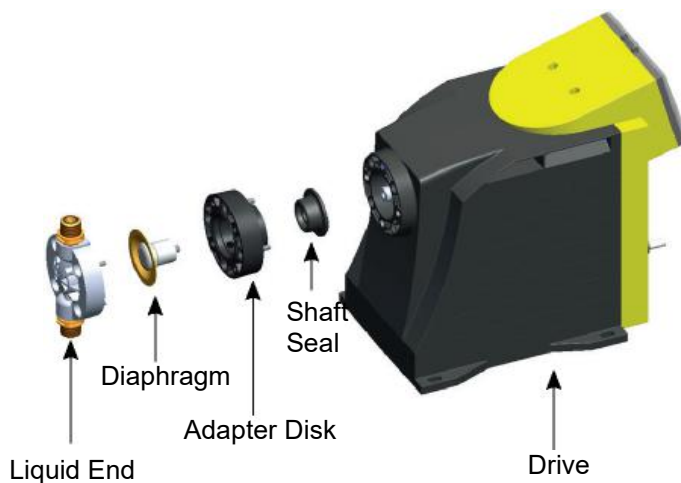

Figure 31: Pump Assembly
4. Once the pump head has been flushed, remove the foot valve or suction tube from the solution and continue to pump air into the pump head until the pump head is purged of water or neutralizing solution (Figure 31).